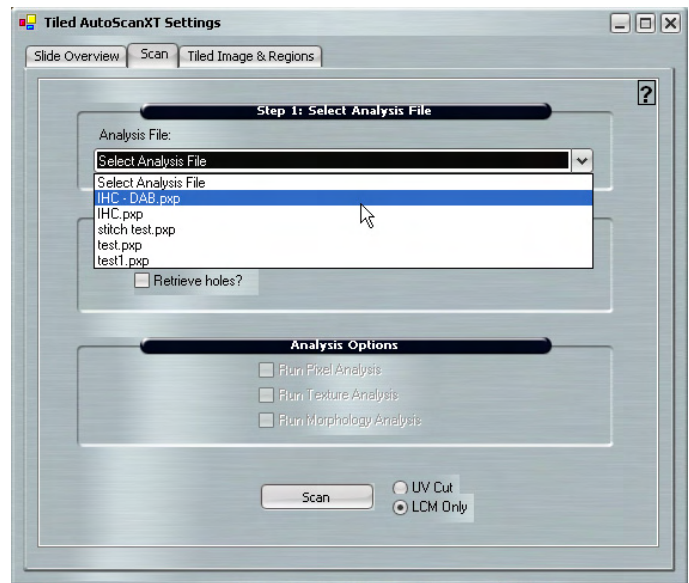

Figure 13. Select Analysis File.
4. Click on the “Scan” tab and select the desired Analysis File from the menu (Figure 13).